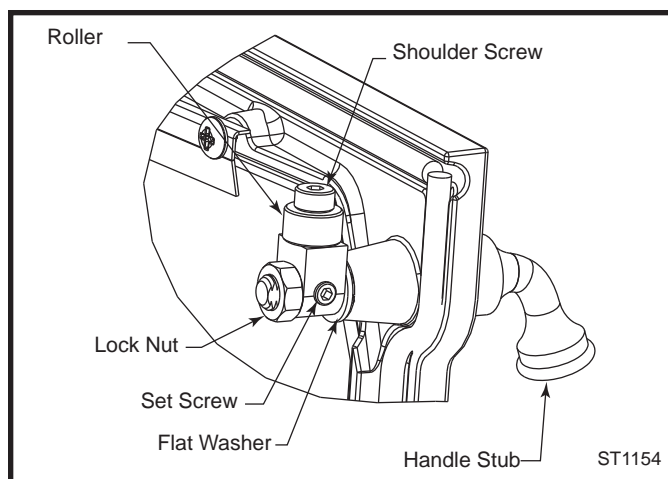

Fig. 33 Rotate pawl and/or remove flat washer to adjust latch.
1. Remove and retain the lock nut with a 9/16" wrench. (Fig. 33)